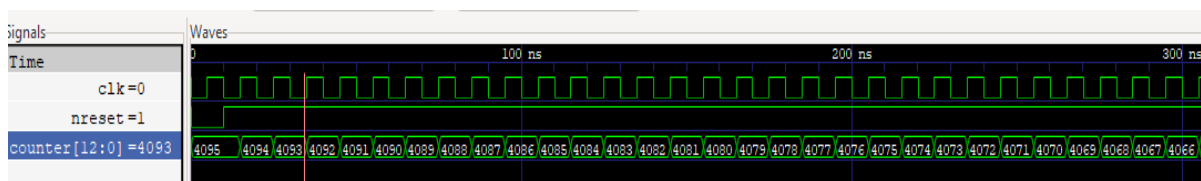

Figure 2: Countdown Timer Functional Waveform
Using the ForgeFPGA Workshop software, the Verilog code was synthesized, and the bit stream was loaded on to the SLG47910 device. The functional waveforms below (see Figure 2) shows the countdown timer counting from 4095(default setup) down to 0.
9. In the GTKWave software, select the signals you want to view and Click Insert on the left corner to insert the signals in the wave window. Once the desired signals are selected, click on Reload (Figure 2).